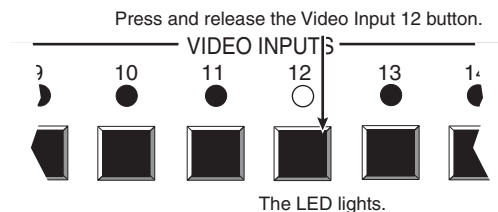

Figure 3-23 — Select an input
3. Press and release the low resolution Input 12 button (figure 3-23).